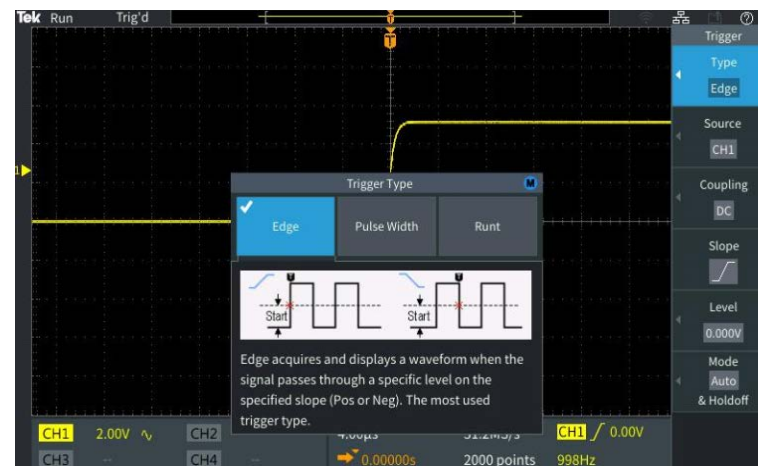

Figure 6. The M logo in the Trigger Type menu indicates that the Multipurpose Knob (MPK) should be used for selection
6. Press **Menu** in the Trigger section. Press the **Type** side-bezel button (Figure 6). Note that the LED under the multipurpose knob (MPK) is lighted, prompting for a selection.